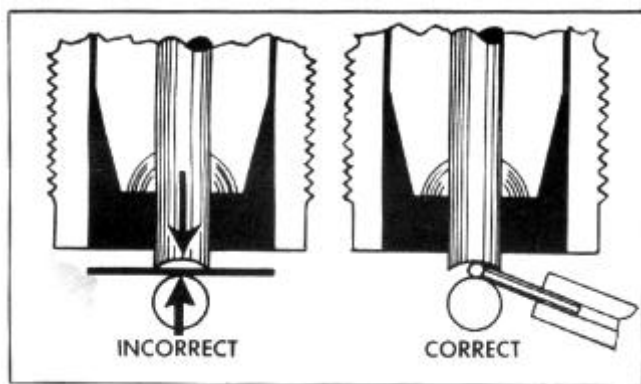

FIGURE 8
3. Adjust spark plug gaps to .032" using a bending tool and wire loop gauge, Figure 8.